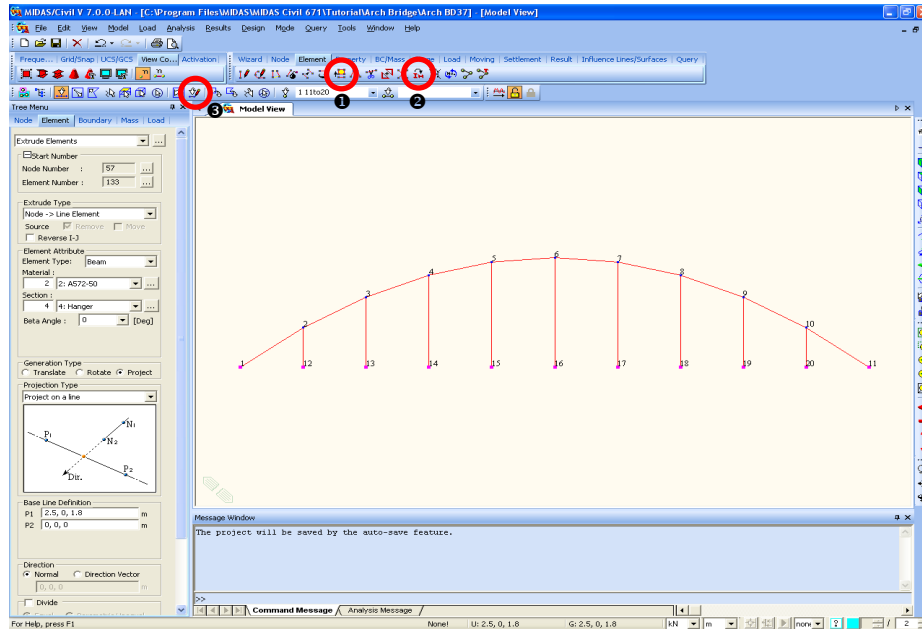

Figure 4.9 Hanger Generation
Use  **Extrude Elements** to generate the hangers. Extend the nodes generated on the arch rib by projecting them perpendicularly downward (Figure 4.9).
1. Click  **Extrude Elements** in the **Element** toolbar (Figure 4.9①).
13. Click  **Change Element Parameters** (Figure 4.9②).
14. Click  **Select Recent Entities** (Figure 4.9③).